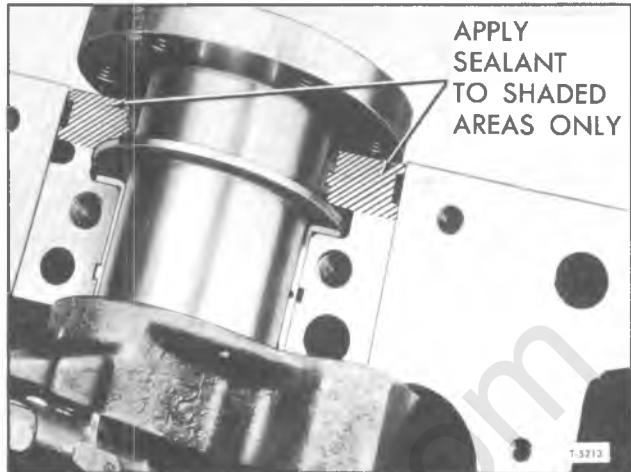

Figure 19—Sealer on Bearing Cap Area on Cylinder Block
3. Referring to figure 19, apply light coat of brush-on type oil sealing compound to block and mating surface on bearing cap. Do not apply sealer on treated ends of oil seals.